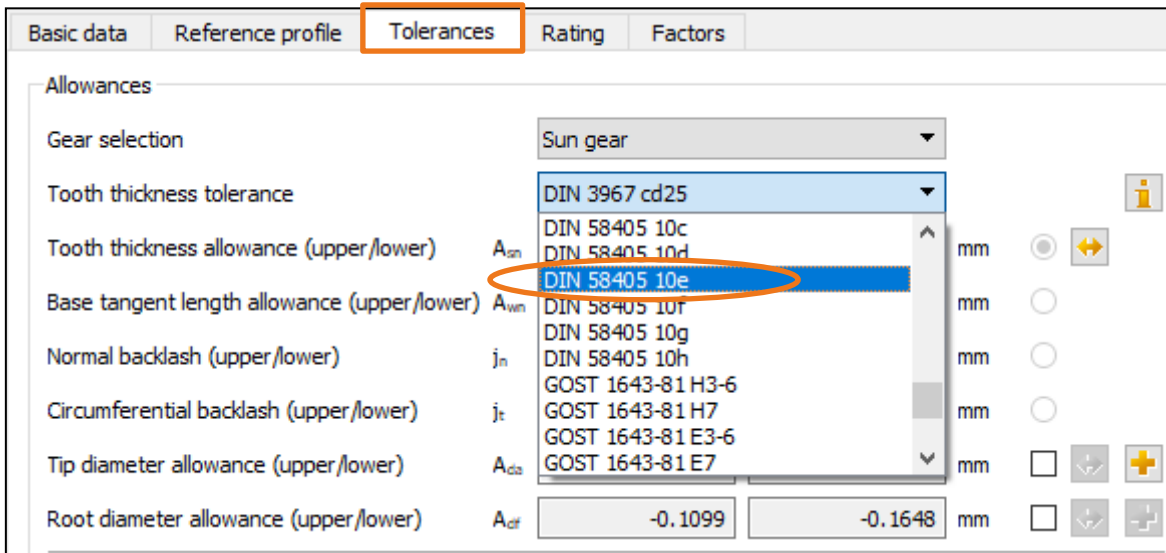
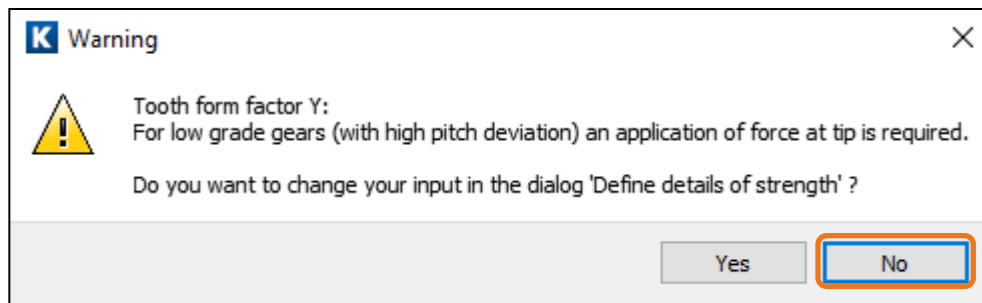
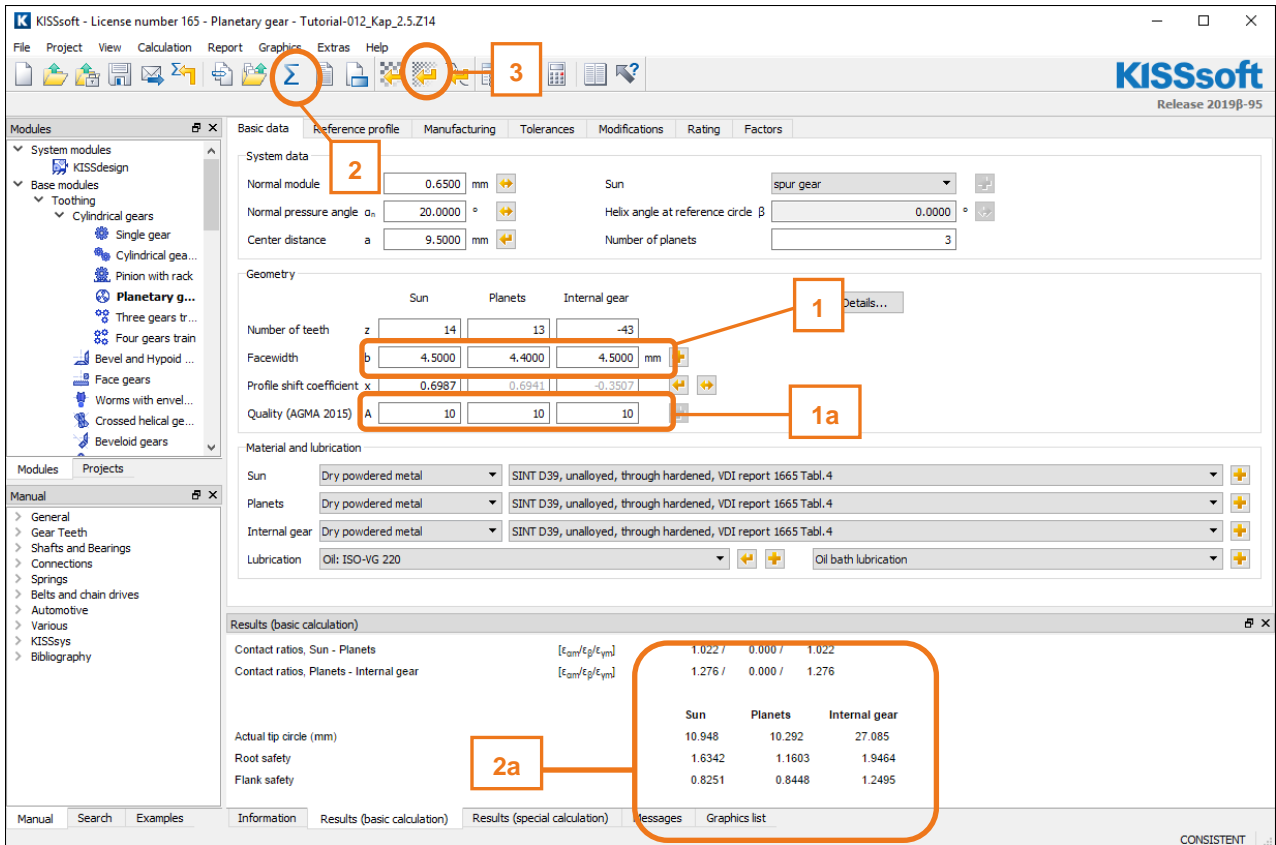

Figure 16. Setting the tolerance
Figure 17. Changing the tooth form factor
Figure 18. Calculate, check the results, and call the Fine sizing function
As the module is smaller than 1.0, we recommend you use a different standard for the tolerances. To do this, go to the «**Tolerances**» tab. In the dialog, select the tooth thickness deviation «DIN 58405 10e» for each gear, Figure 16. Here, 10 indicates the quality (interval width), where 10 means «lower quality». The letter «e» represents the definition of the interval limit and therefore also the backlash. For this reason, you should go to the «**Basic data**» tab and also set the corresponding quality setting to 10, (see also (1a) in Figure 18.
After you have defined the tolerances, you may want to input a better value for the facewidth (in this example we are leaving the values unchanged (1), see Figure 18. Click **[Calculate F5]** (2). You now see the first results of the roughly sized planetary gear set in the «Results overview», see also (2a) in Figure 18. Click [No] to close the message displayed in Figure 17.
This completes the presizing step. This is used to provide the Fine sizing function with values that are approximately the correct size for the subsequent processing steps. Now, to generate an optimized solution, click the Fine sizing (3) button Figure 18.